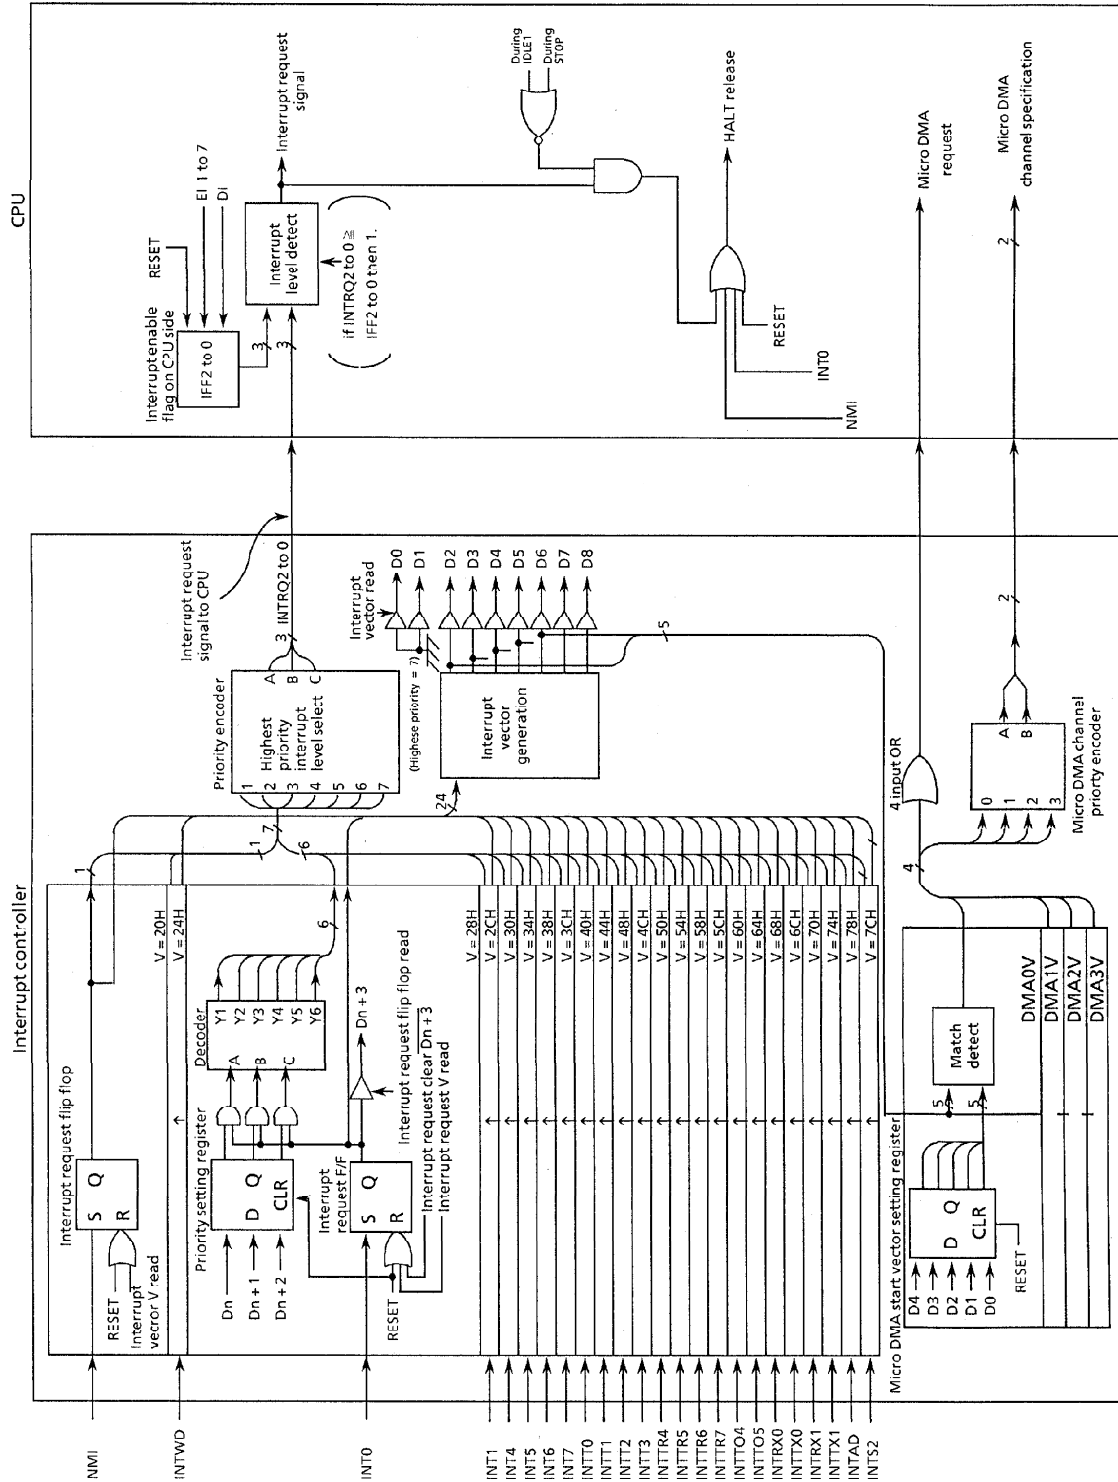

Figure3.4 (2) Block Diagram of Interrupt Controller
Figure 3.4 (2) is a block diagram of the interrupt circuits. The left half of the diagram shows the interrupt controller; the right half includes the CPU interrupt request signal circuit and the HALT release signal circuit.